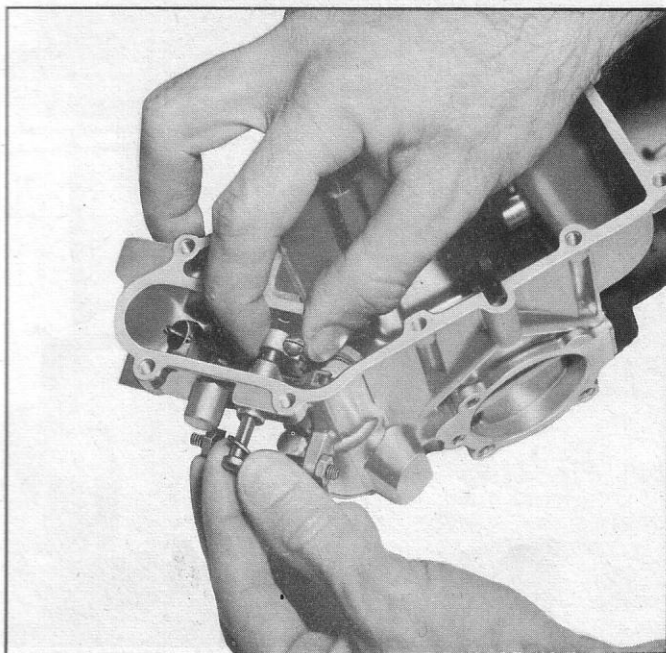

Fig. 44—Removing Ratio Lever From Fuel Meter
6. Loosen screw retaining ratio lever in position, slide ratio lever and shaft from meter body (fig. 44).